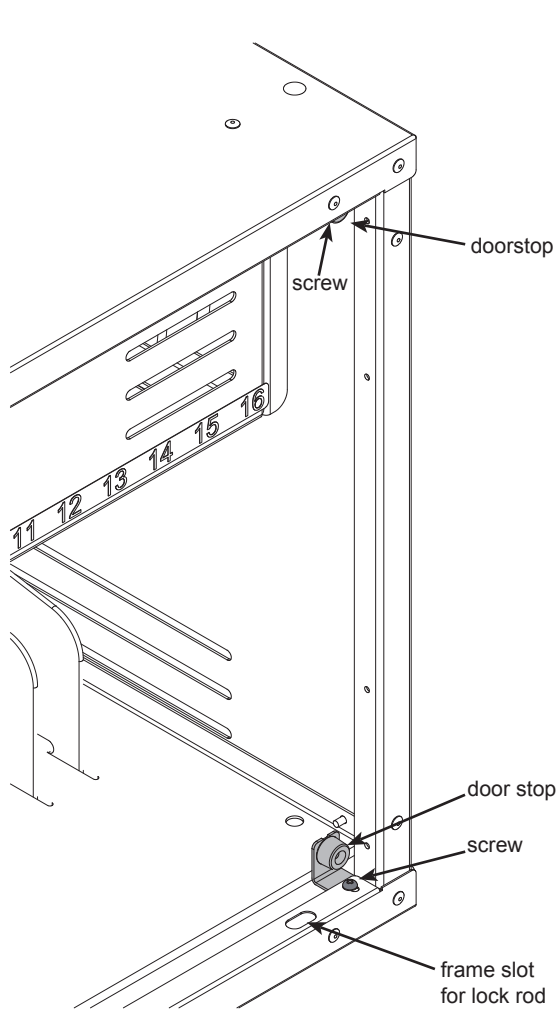

Figure 5B
3. Remove the two door stops. **Figure 5B.** Re-attach stops on the opposite side of the cabinet.
4. Flip the door around and attach to the opposite side of the cabinet with the (5) previously removed screws and tighten securely.